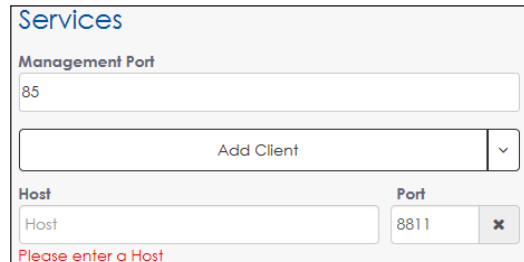

Figure 49: Services - Venus Local
- **Venus - Local:** This option is for the Venus® Control Suite software program that is hosted from a local computer server. When this is chosen, the **Host** field is blank and the **Port** field is **8811** by default. Fill in the correct **Host** information before saving. Refer to **Figure 49**.